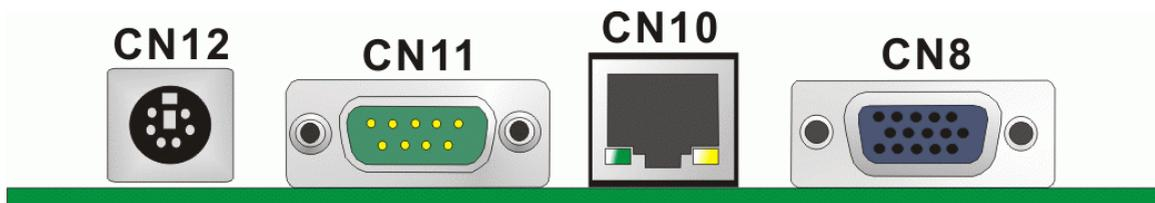

Figure 4-24: IOWA-MARK On-board External Interface Connectors
The IOWA-MARK external peripheral interface connectors are listed below and shown in Figure 4-24:
CN Location:	See Figure 4-24
- CN Location:** See Figure 4-24